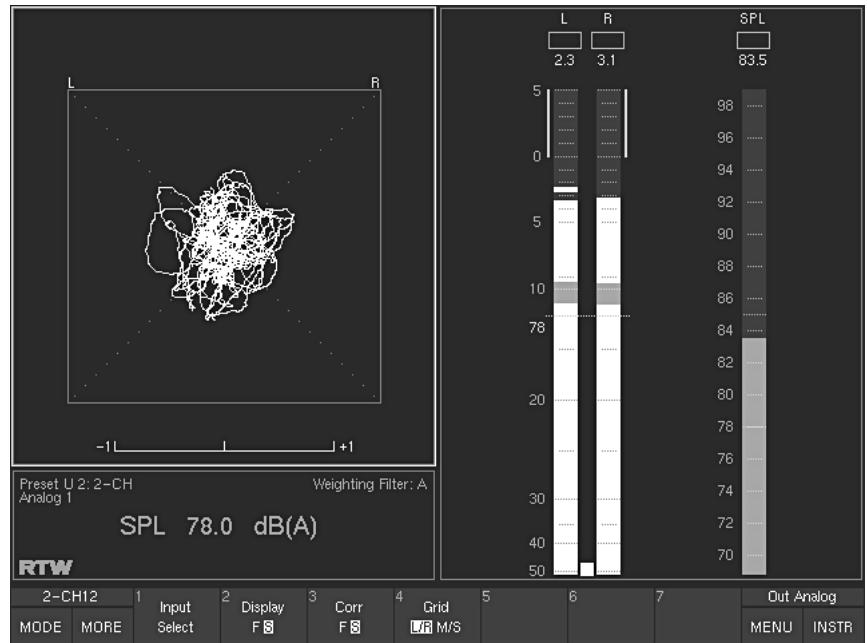

Fig. 5-17: The Audio Vectorscope instrument (VSC) in 2-Channel Stereo mode
(Button/key 1, see Fig. 5-17)
(Button/key 2, see Fig. 5-17)
(Button/key 3, see Fig. 5-17)
(Button/key 4, see Fig. 5-17)